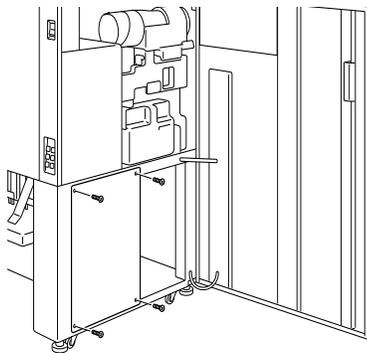

Figure D-1
1. Open the front door, and remove the lower left cover (black) by removing the four screws as shown in Figure D-1.